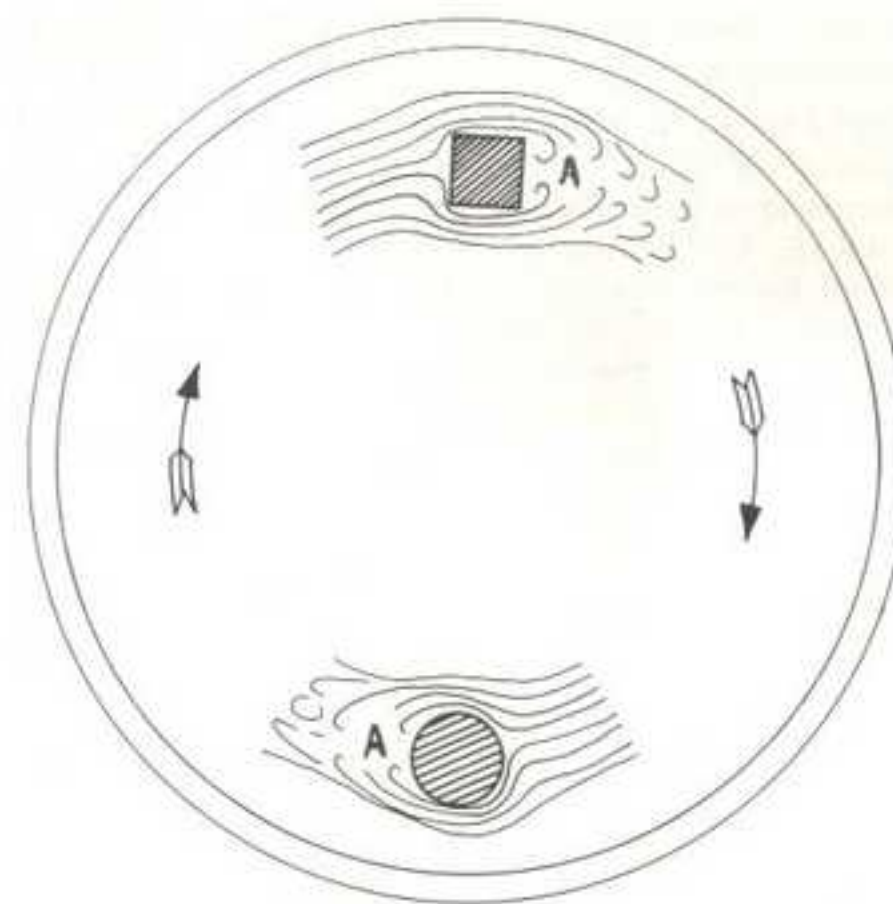

Fig. 18 Quenching. If the flow of water past the work is fast enough to cause eddies at A steam formation on the downstream side will be aggravated.
**Quenching Technique.** This does require some attention. Far too many people set the work in the water and swirl it about violently. The recommendation seen in some books that the water in the bucket be set in rotary motion and the tool taken down vertically at one side is even more unfortunate. Look at Fig.18. The water is passing the work (or the work is passing through the water – same effect) with the result that there is a reduction in water pressure on the downstream side. This means that steam will form more readily on that side and it will be under-quenched. There is plenty of motion to displace steam at the front, and perhaps